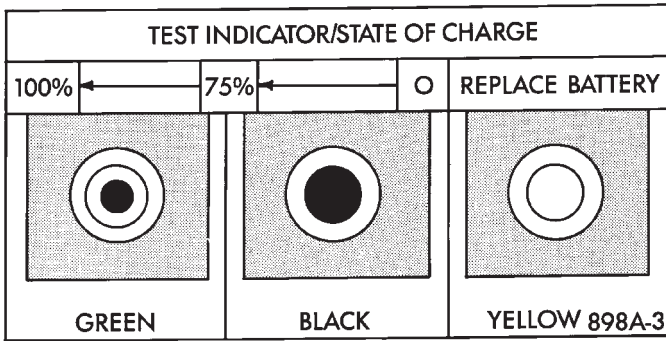

Fig. 5 Test Indicator Sight Glass
The built-in test indicator (hydrometer) measures the specific gravity of the electrolyte. Specific gravity (SG) will indicate state-of-charge (voltage); although, the test indicator will not indicate cranking capacity of the battery. Refer to Battery Load Test for more information. Look into the sight glass and note the color of the indicator (Fig. 5), refer to the following description as color indicates:
A yellow or bright color indicates electrolyte level in the battery is below test indicator (Fig. 5). Water can be added to a low maintenance battery. A low electrolyte level may be caused by an over charging condition. Refer to Generator Test Procedures On Vehicle in this group.